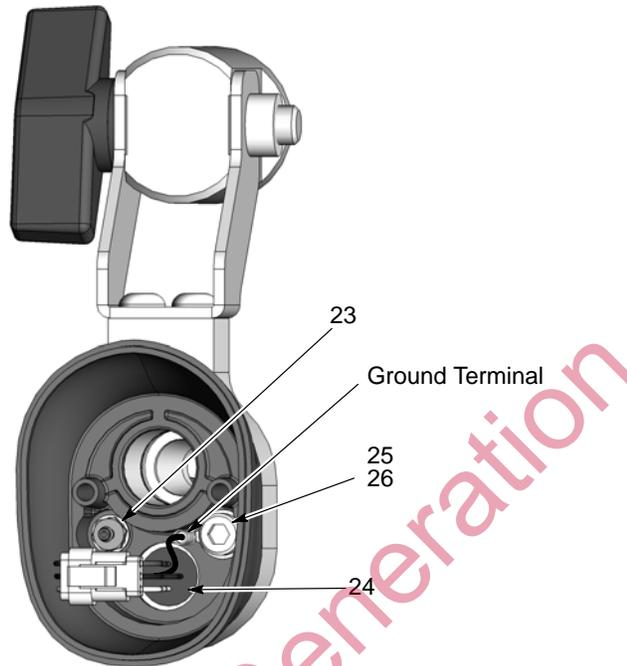

Figure 15 Gun Disassembly – Cable Receptacle and Barbed Fitting Replacement
5. Insert a small flat-bladed screwdriver into the slot on the harness connectors and separate the receptacle harness (24) from the power supply harness.
6. See Figure 15. Disconnect the clear air wash tubing from the barbed fitting (23) inside the rear body.
- a. See Figure 15. Use a 4-mm hex wrench to remove the hex head screw (25) and washer (26) and disconnect the ground terminal.
- g. See Figure 15. Connect the ground terminal to the end cap with the hex head screw and washer (25, 26).
16. See Figure 15. Connect the air wash tubing to the barbed fitting, and the power supply harness to the cable receptacle harness.